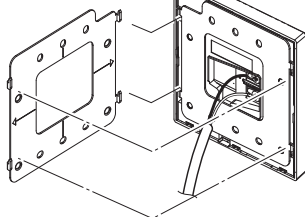
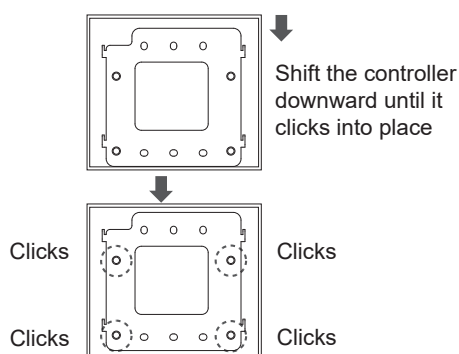

Fig. 2
Fig. 3
6. After attaching the mounting bracket so that it connects into the hole of the remote controller (Fig. 2), shift the remote control downward until it clicks into place (Fig. 3). Remove the transparent protective film on the front of the remote controller (Fig 4).